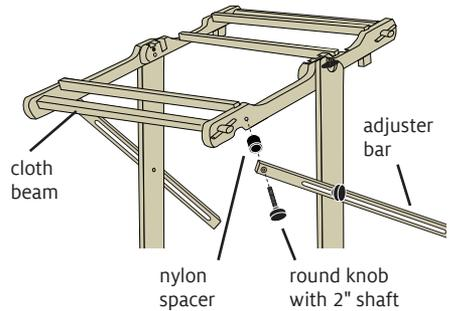

FIGURE 6: ATTACH ADJUSTER BARS TO THE LOOM
- Push a round knob with a 2" shaft through the hole in the adjuster bar (Figure 6).
- Push a round knob with a 2-1/2" shaft through the hole in the adjuster bar (Figure 6).